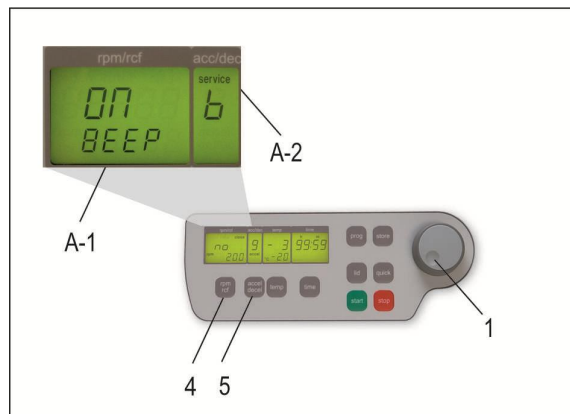

Figure 9
Proceed as described under point 1.8.2 to enter this program mode and then press the key „accel/decel“ (5). In the display „accel/decel“ (A-2) flashes the word „service“. Now select the letter „b“ with the adjusting knob (1). As a result appears in the display „rpm/rcf“ (A-1) the word „ON/BEEP“. After pressing the key „rpm/rcf“ (4), you can turn the keyboard sound (On) or (Off) with the adjusting knob (1). (see figure 9).